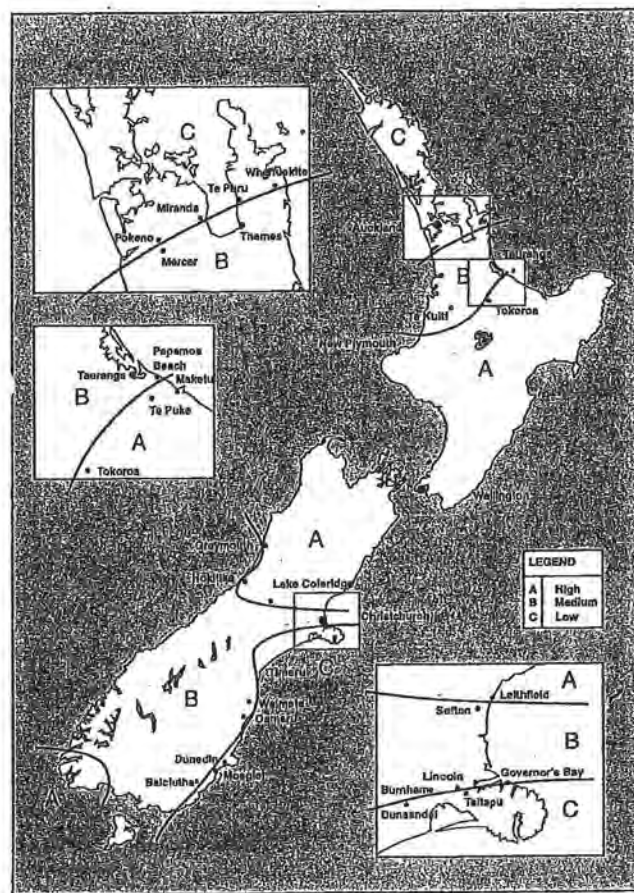

Figure 5 Seismic Zones
Step 1 From Figure 5 below left (from NZS 3604:1999) determine the seismic zone for the building.